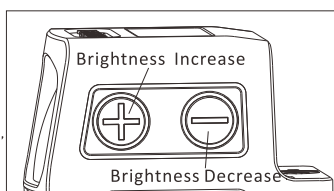

Fig6
Two operation modes are available: Auto mode and manual mode. See Fig 6.
3. Operation Mode: Three modes are available in the following order: Auto Mode -> Manual Mode -> Lockout Mode. See Fig 6.